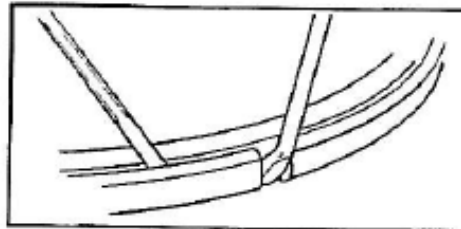

Figure 6
1. Remove the lock ring with two pry bars. Start at the split in the ring and then work the tools around the ring (See Fig. 6)